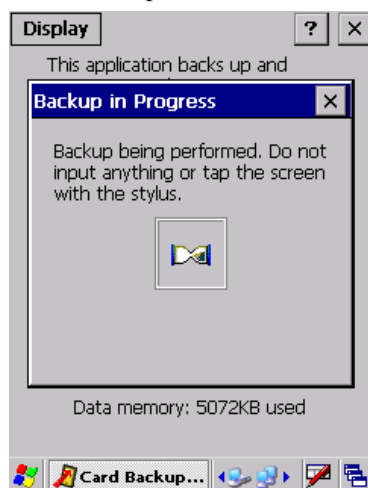

Fig. 4.85
3. As soon as **Yes** button is pressed, the progress window appears (see Fig.4.85) and the backup will be executed.